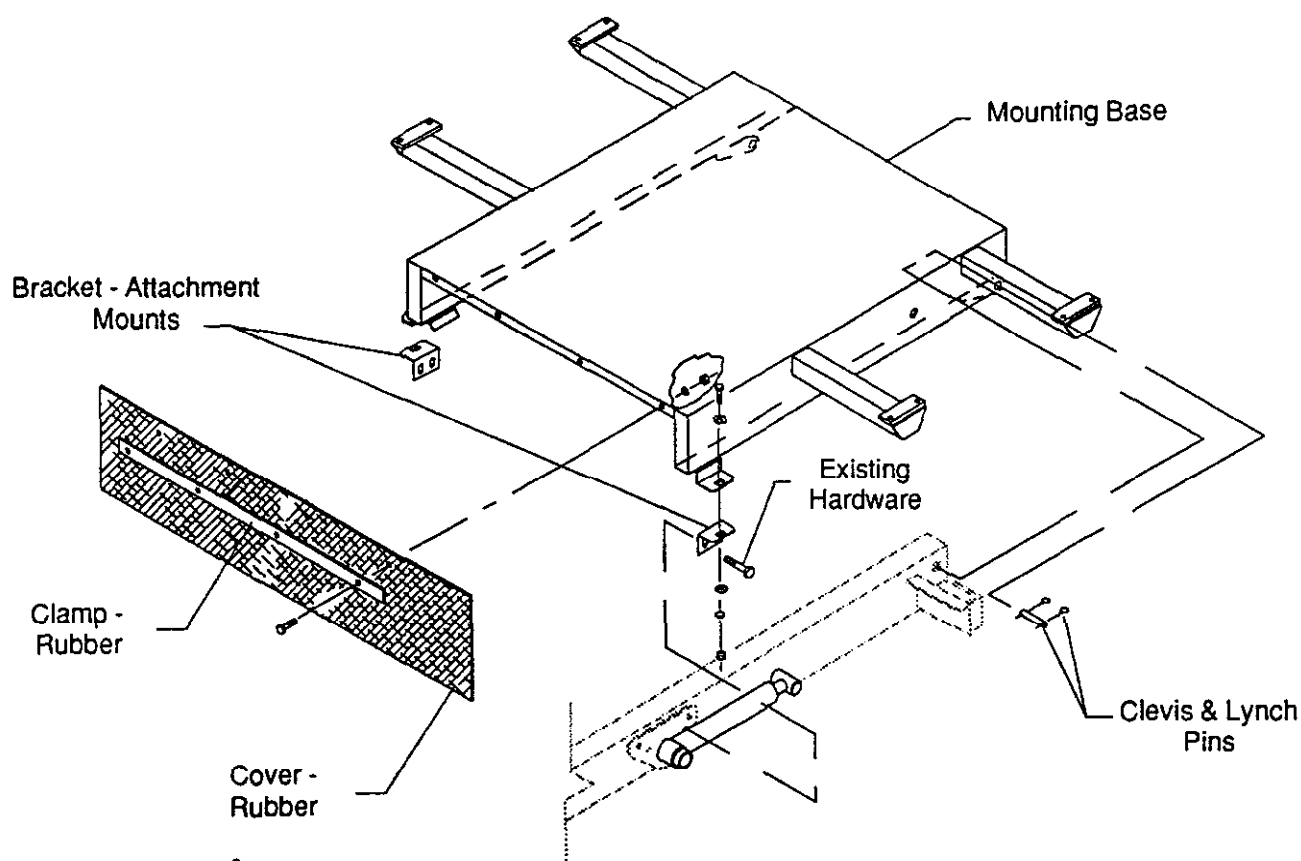

Figure 1
## ATTACHING TOPDRESSER BASE TO WORKMAN (Fig. 1)
1. Attach both Bracket Attachment Mounts (92-2667) to both sides of the Workman as shown in Fig. 1. Attach with bolts and nuts already in the frame but do not tighten.
2. Set the Mounting Base (92-4351) of the topdresser on the Workman as shown in Fig. 1.
5. Attach the Rubber Cover to the front of the base using the Clamp-Rubber as shown in Fig. 1. Secure using the 1/4" x 1" bolts.